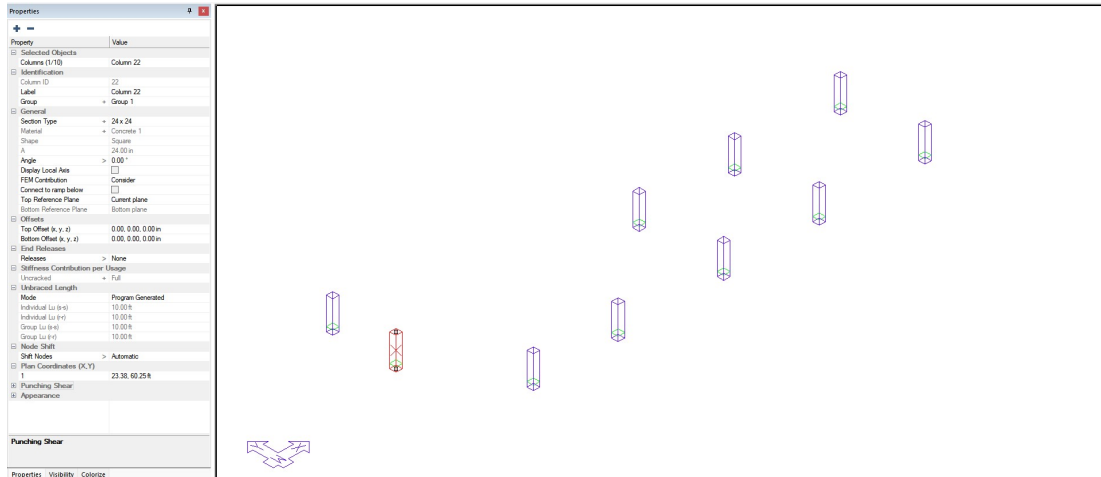

Figure 2.6-7 - Top-Front-Right View with Transformed Column and Column Dialog
- Select the menu item **Home | Display | Layer Settings**, to open *Layers* dialog box. Click on the button “**All Layers Off**”. And this time turn **All Layers Off** and turn on that layer representing the structural slab layer (**Figure 2.6-7**) to display only the polygon representing the slab region(s).